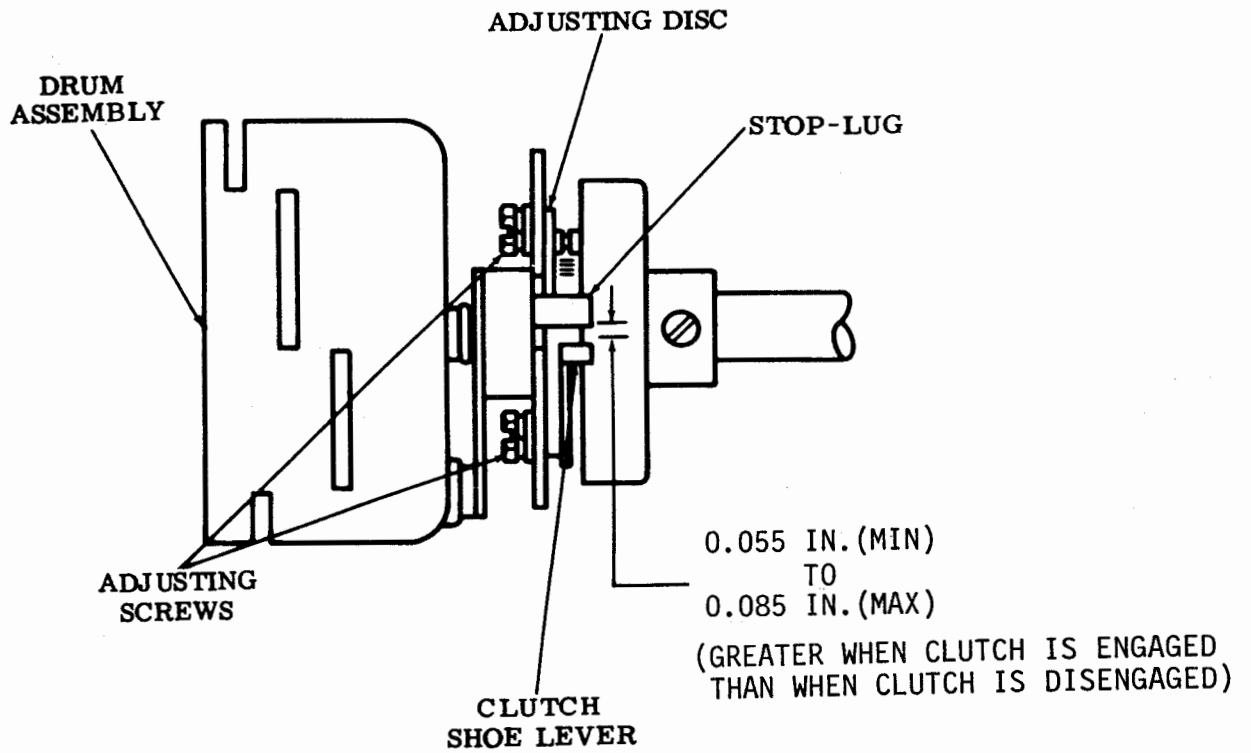

Figure 6-157. Clutch Shoe Lever
(2) Clutch Shoe Lever. Adjust clutch shoe lever as follows:
- (a) Refer to figure 6-157.